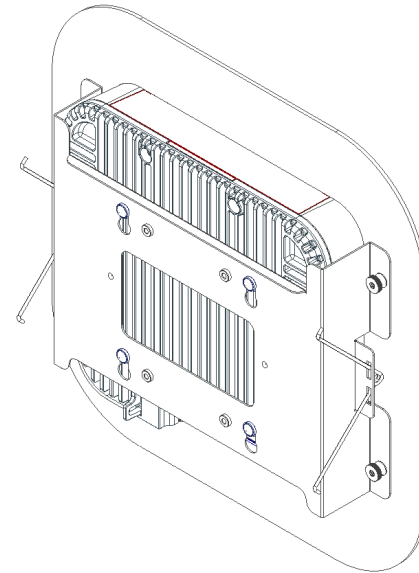

Figure 6 - Reassemble Trim
Step 6 - Reassemble the trim by attaching the trim piece which was previously removed by inserting the studs into the slotted holes and installing the thumb nuts as shown in Figure 6.